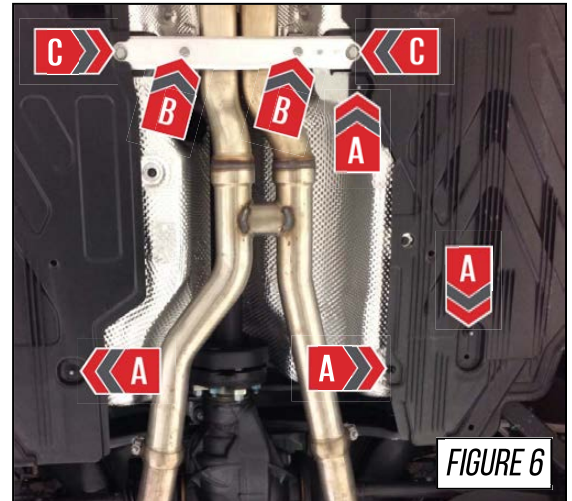

FIGURE 6
Remove the 10mm plastic nuts and 8mm screws that hold the two side plastic underbody panels closest to the tunnel to access the OEM cross-brace, at **Arrows A** in **Figure 6**.
Remove the two (2) (T45) torx bolts from the center of the OEM cross-brace, at **Arrows B** in **Figure 6**.
Remove the four (4) 16mm bolts that hold the cross-brace in, at **Arrows C** in **Figure 6**. (Two are behind the underbody panels.)